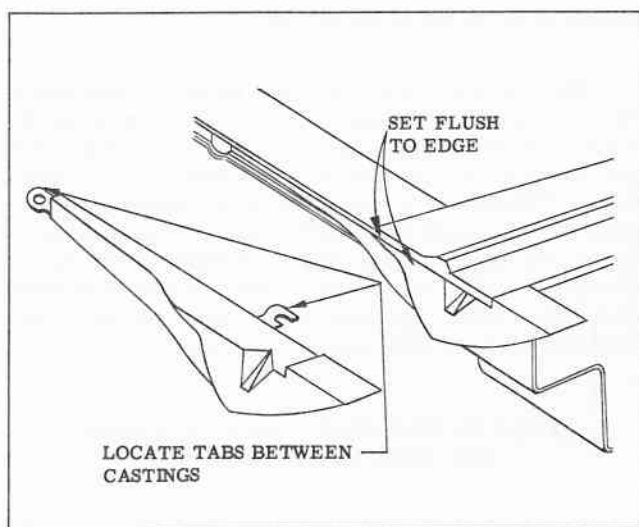

Fig. 7 View "C" Fig. 4
15. Install new lift gate lower corner weatherstrips flush with edge of lift gate as shown in Fig. 7.